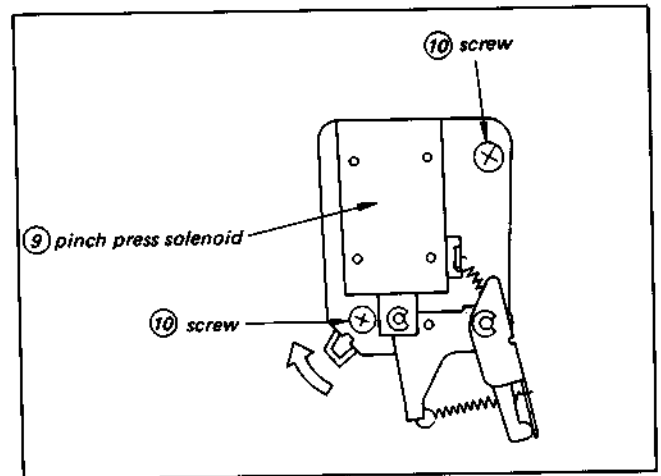

Fig. 3-23.
- 5) Loosen the two screws ⑩ holding the pinch press solenoid ⑨ (Fig. 3-23) and move it fully in the direction of the arrow.